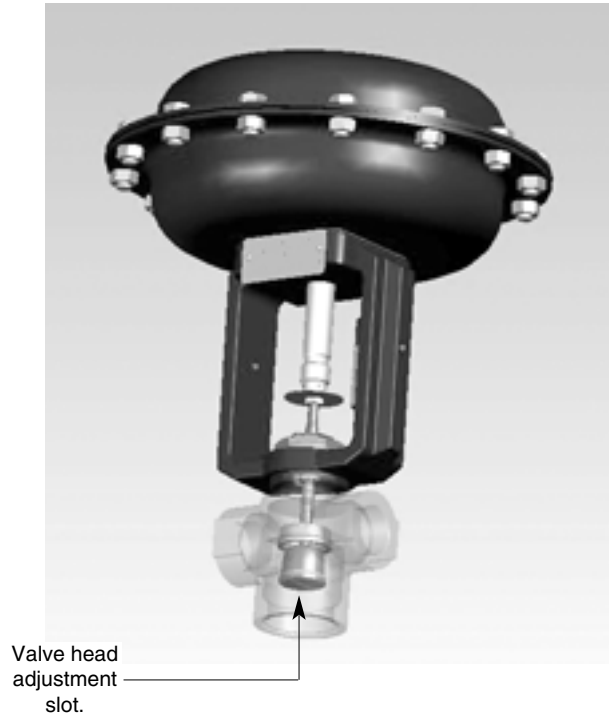

Figure 3
2. Apply the control signal pressure required to commence lifting the actuator spindle. Insert a large flat headed screwdriver in the underside of the body and engage it in the slot in the valve head. See Figure 3.
2. Apply the control signal that will be used to just close the valve. Insert a large flat head screwdriver in the underside of the body and engage it in the slot in the valve head. See Figure 3. Rotate the valve head until its seating face just touches the seating face on the valve seat.
5. Insert a large, flat headed screwdriver in the underside of the body and engage it in the slot in the valve head (Figure 3). Unscrew the valve head and stem from the actuator spindle until it is fully disengaged.